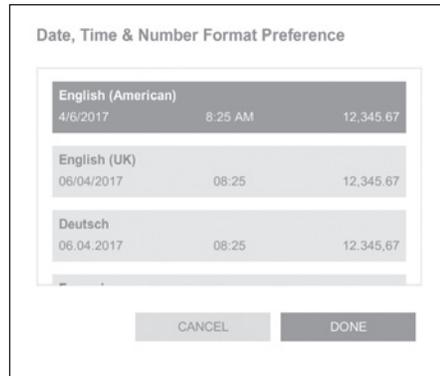

Figure 32: Select the Desired Language for Date & Time Format
5. Select the desired language and press the Done Button. See Figure 32.